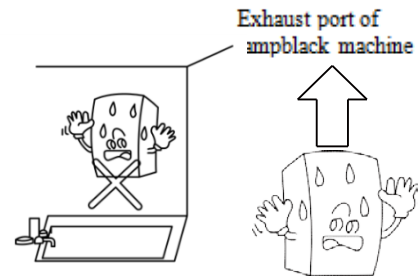

Fig.4
- The heater shall not be installed in the exhaust fan and the exhaust port of the lampblack machine. (Fig.4)